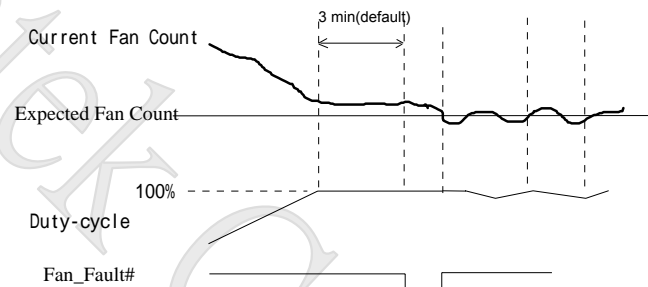

Figure 5-12
- (1). When PWM_Duty reaches FFh, the fan speed count can't reach the fan expected count in time. (Figure 5-12)